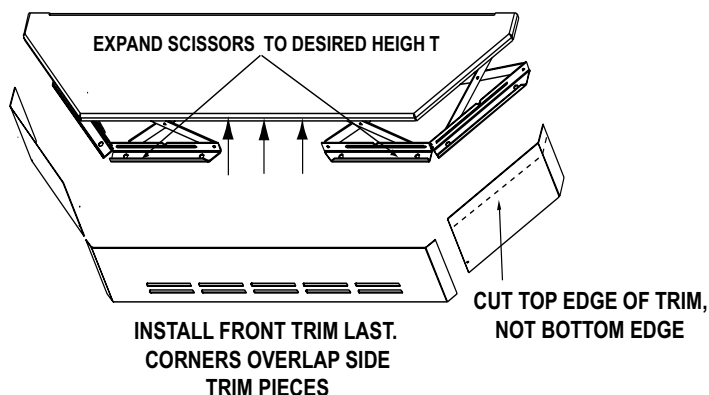

Figure 15B
2. Expand scissors to desired height. Tighten screws to hold in place using Phillips Head screwdriver. **See Figure 15B.**
3. Measure front and side trims to required height to cover scissors and mark pieces for cutting. Cut excess material from **top** of trim's edge, not bottom. This edge will be sharp; wear gloves to prevent injury to your hands. **See Figure 15B.**